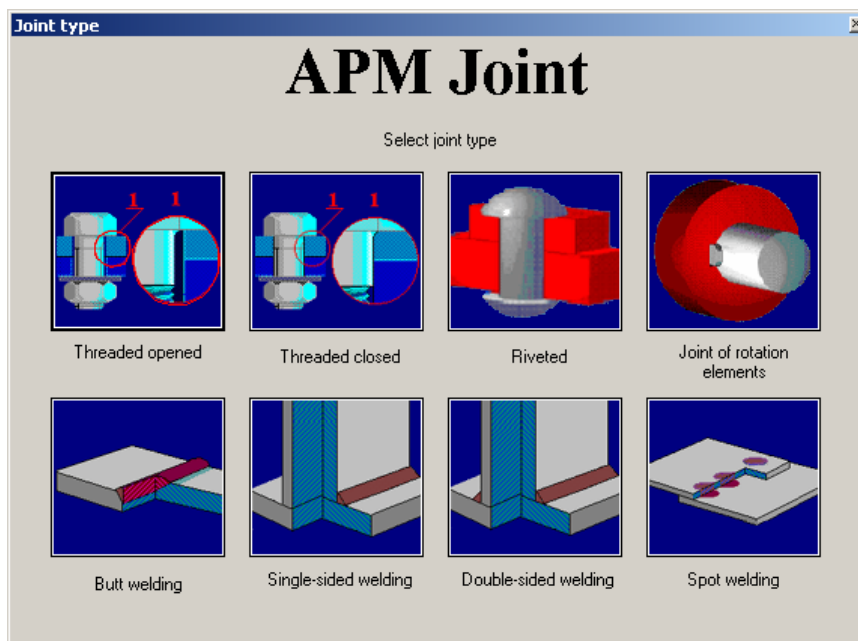
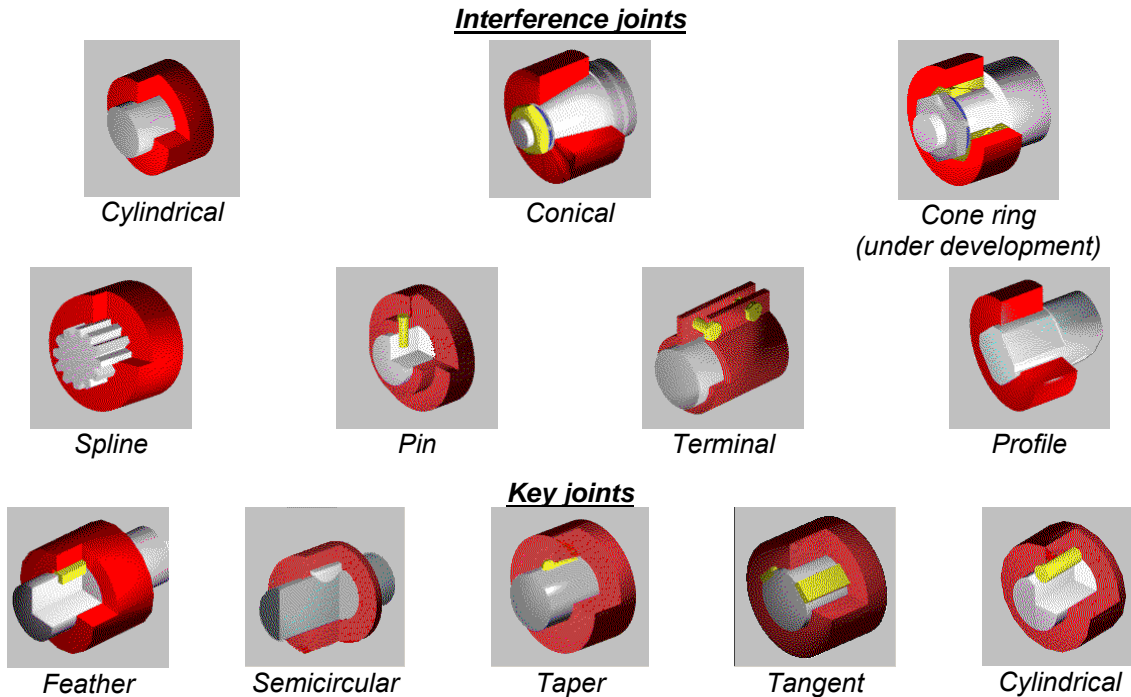

Fig. 1.1 Joint type dialog box
Fig. 1.2 Joint of rotation elements classification in APM Joint
Dialog box for joint type selection is displayed after program launch (fig. 1.1).
**APM Joint** rotation elements joint classification is represented in fig. 1.2. Select corresponding button in dialog box (fig. 1.1) to calculate a joint of rotation elements. Further type selection and calculation according to below classification are performed in subsystem of rotation element joints (Chapter 5).